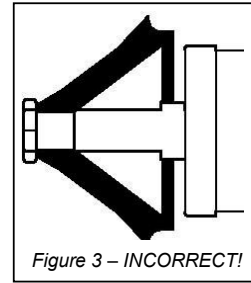
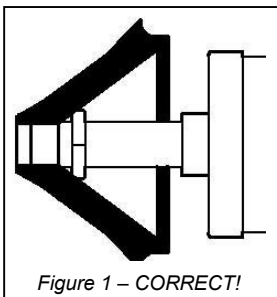
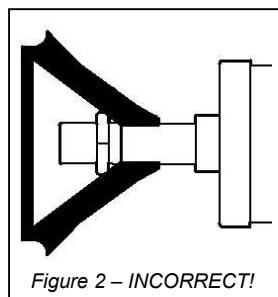

Figure 3 – INCORRECT!
Figure 1 – CORRECT!
Figure 2 – INCORRECT!
3. Use the Lock Nut to hold the cone in place as shown in figure 1, *never* as shown in figure 3.
1. Thread the 4" Rubber Cone onto the spindle with the point of the cone facing downward as shown in figure 1, not with the point facing the cylinder as shown in figure 2.